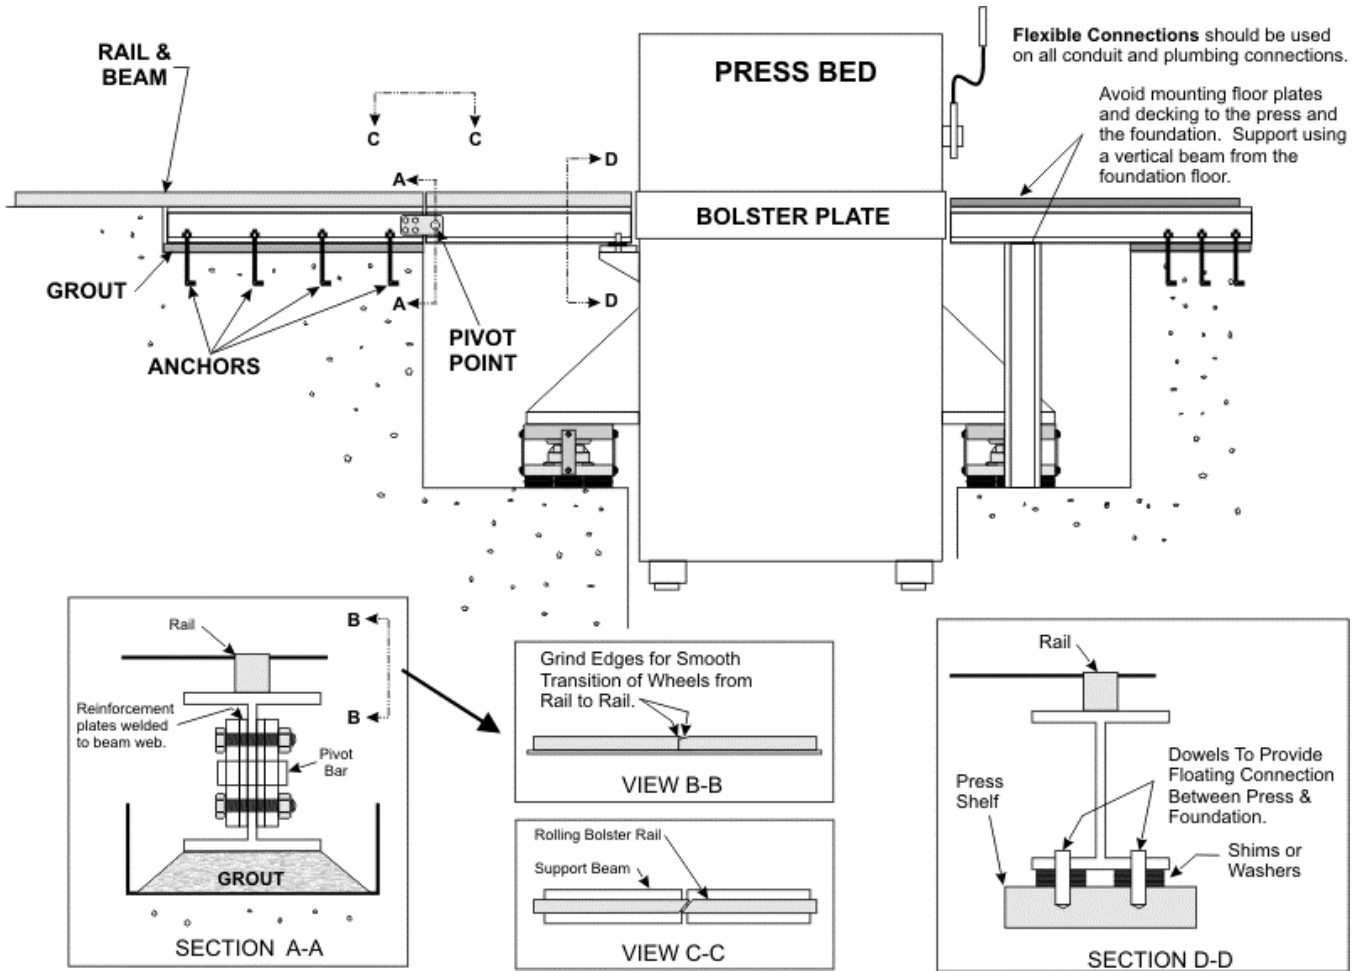

FIGURE 5
Method Two (Figure 5)
- In this method, each rolling bolster beam is divided into two. One section is anchored to the floor and the other is designed to float with the press. The ends of the floating sections are supported by pivot points located at the edge of the pit and on the press bed as shown in Figure 5. The beam/rails are restricted from moving horizontally using guide pins and clearance holes or stops welded on the support shelf to contain the sides of the beam/rails.